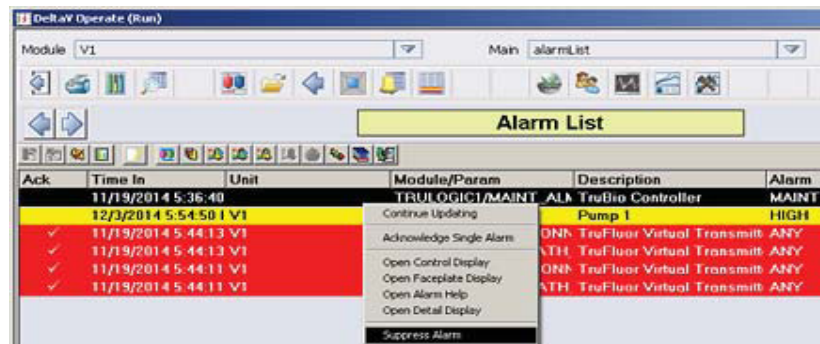

Figure 3.9. Selecting “Suppress Alarm” from menu.
3. From the menu, select **Suppress Alarm** (Figure 3.9).